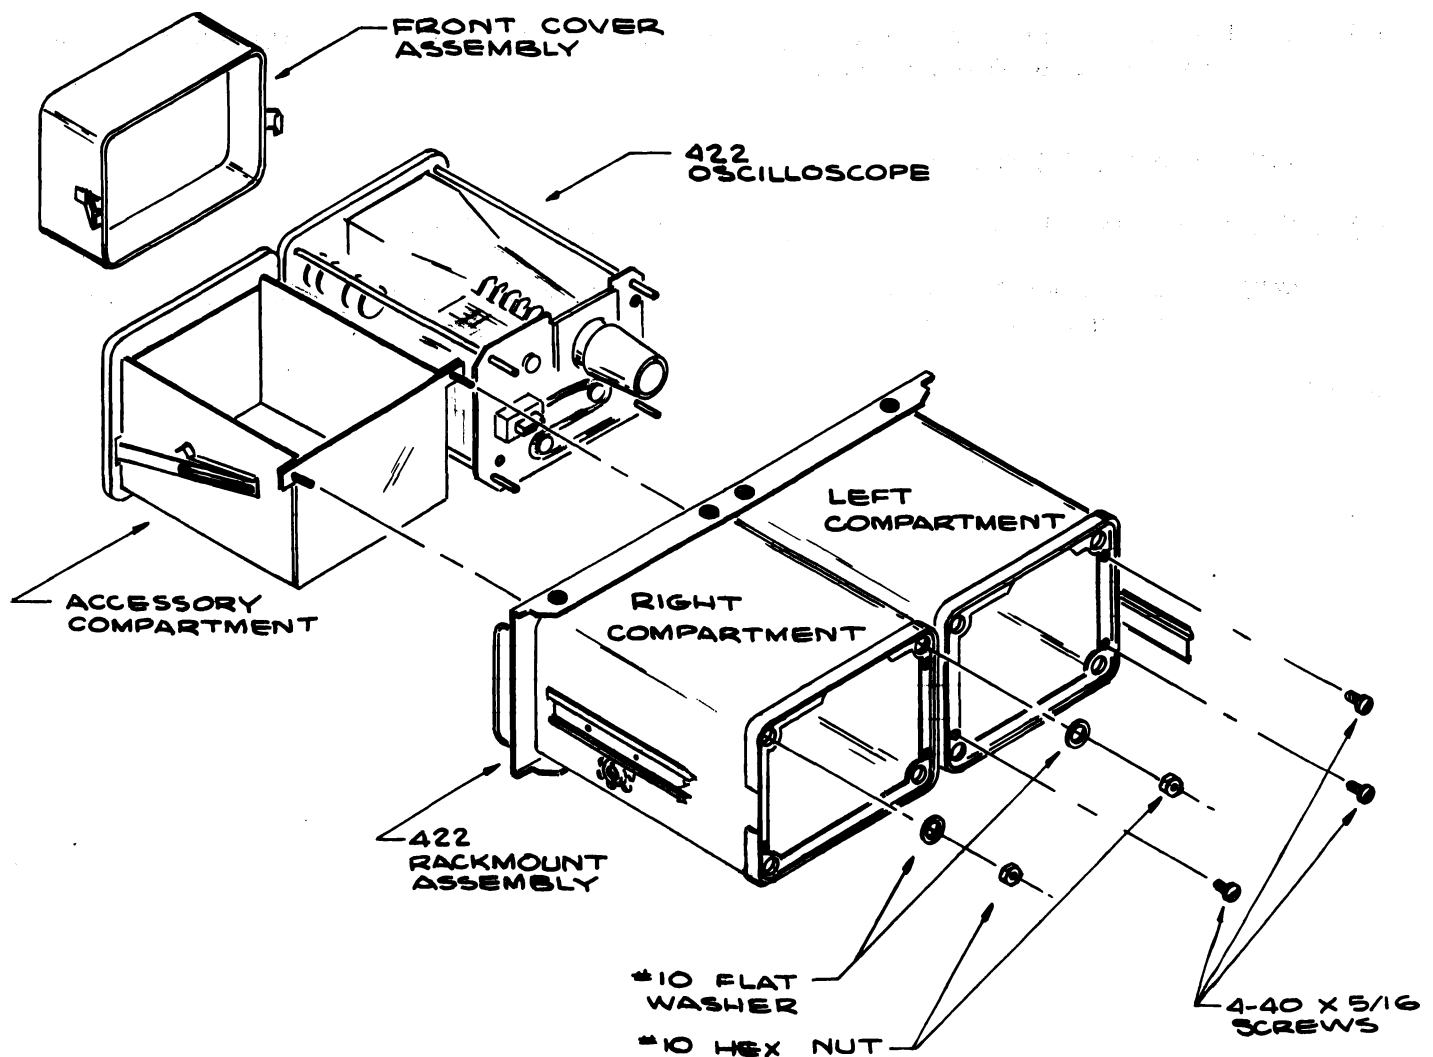

Fig 2
- () 5. Remove the wrap-around cabinet from the instrument. (Refer to Fig 2.)
Refer to Fig 2 for steps 1 and 2.